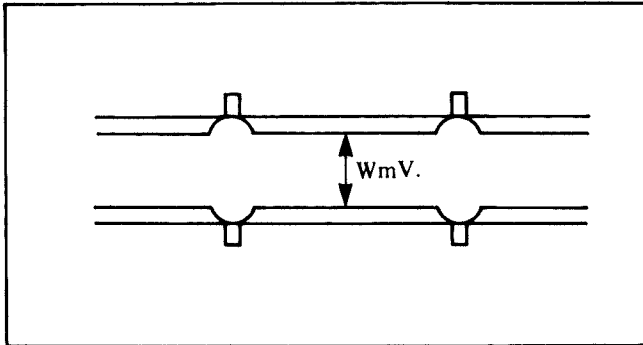

Fig. 2-5-12. Y RECORDING CURRENT
9. Connect a jumper wire between TP6 on the SYSTEM CONTROL (I) P.C.B. (STUDIO VTR) and TP34 on the SERVO SYSTEM CONTROL P.C.B. (PORTABLE VTR).
17. Place the unit in Record mode. Then adjust VR6 (Y CURR) until the amplitude level shown as "WmV" in Fig. 2-5-12 is equal to the signal generator level written down in step 14.